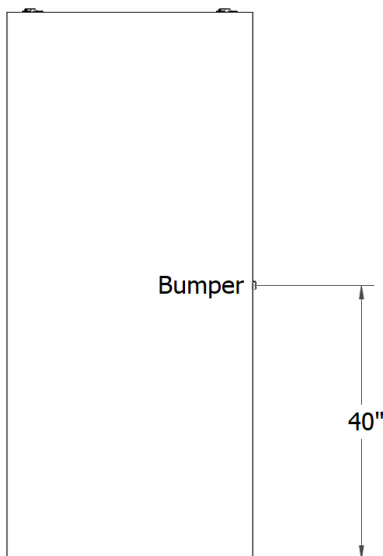

Figure 3
- Create a pilot hole using a 5/64" drill bit at the center of the pocket side door thickness, 40" from the bottom of the door. See Figure 3.